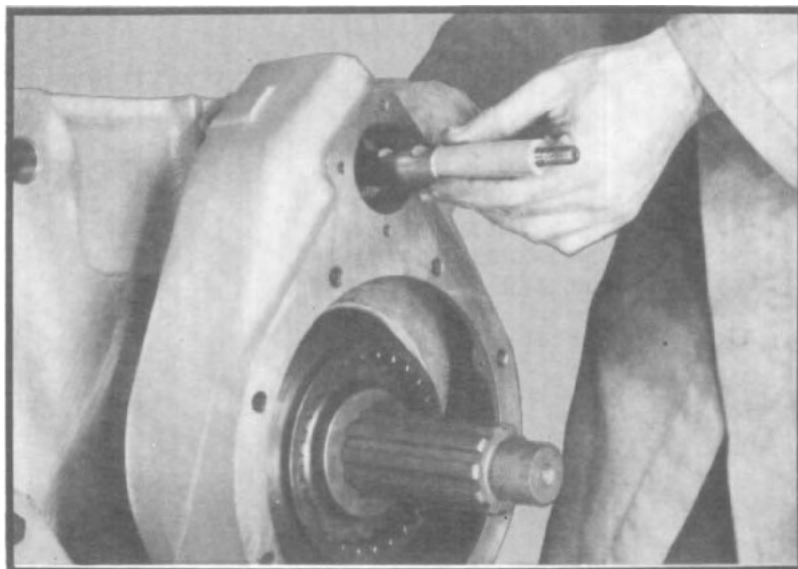

Fig. 163
4. Install shift shaft through shift fork and into lockout housing. Align two grooves in shaft with clamping screw holes. (See fig. 163.)